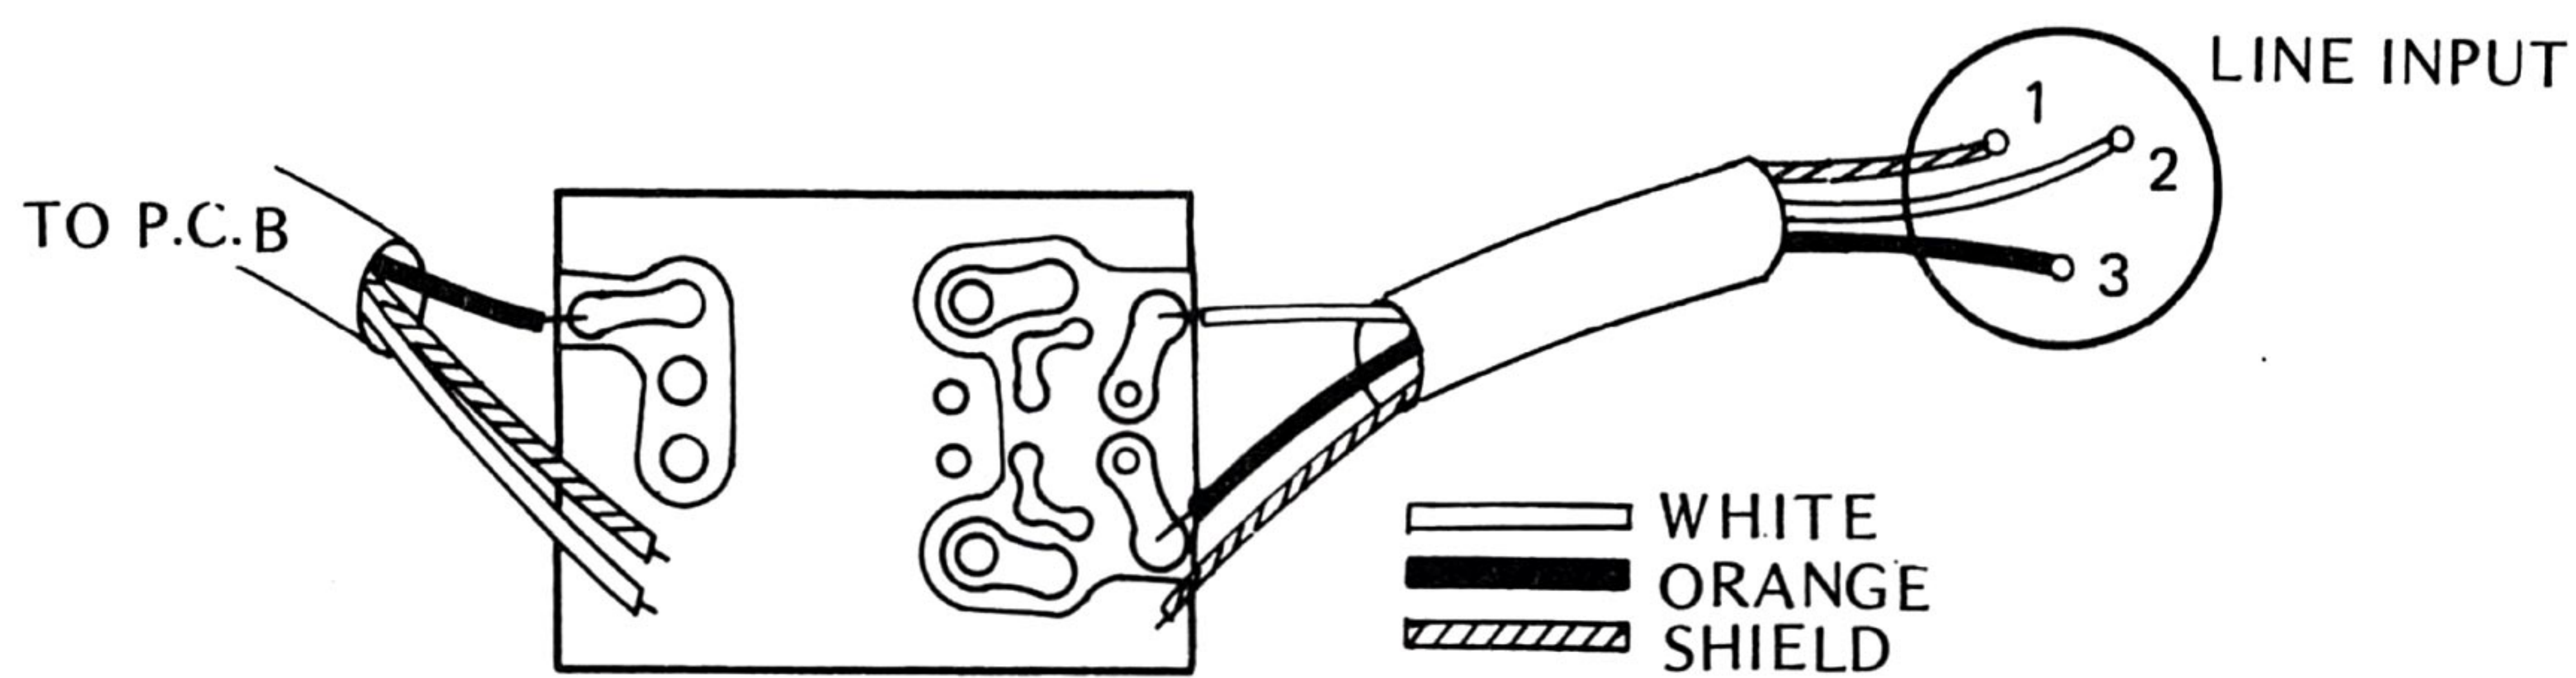

Fig. 4-13 Input Transformer Wiring
3. Solder Hot Line (Orange) premounted on the transformer to XLR connector number 3, Cold Line (White) to XLR connector number 2, and Shield to XLR connector 1. (See Fig. 4-13)